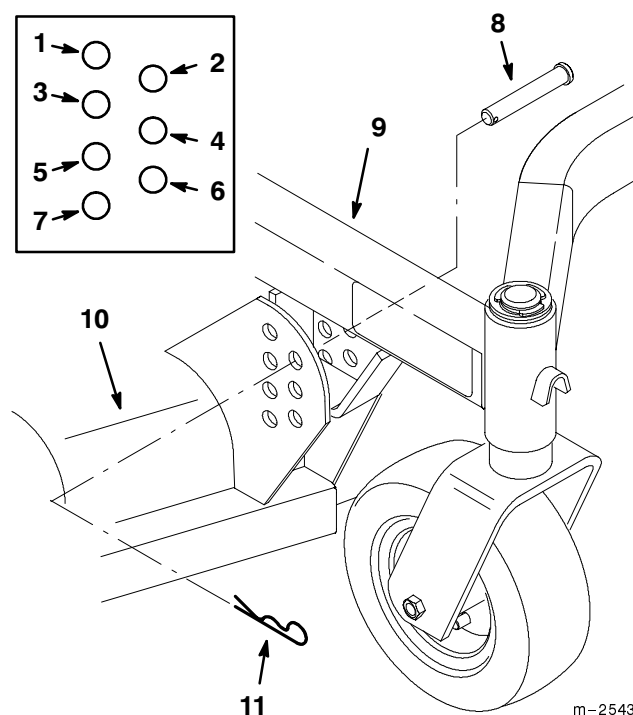

Figure 4
2. Mount the mower to the carrier frame with four (4) clevis pins and hairpin cotters (Fig. 4).